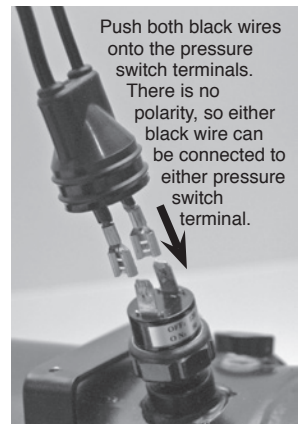

Fig. 8
IMPORTANT: It is recommended that both black wires be pushed forward so that the terminals are extending out of the rubber boot exposing the 1/4" female terminals (Fig. 8).
11. Select one of the black wires with the 1/4" female terminal, connect the terminal to the pressure switch. Repeat the procedure for the other black wire. **NOTE:** There is no polarity, so either black wire can be connected to either pressure switch terminal (Fig. 8).